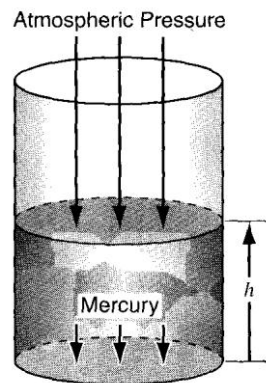

Figure 5.1 Pressure is the normal force per unit area. Arrows show the force exerted on the respective areas
**Pressure** is defined as “the normal (perpendicular) **force** per unit **area** (Figure 5.1). The pressure at the bottom of the static (nonmoving) column of mercury exerted on the sealing plate is
**For Example**, suppose that the cylinder of fluid in Figure 5.1 is a column of mercury that has an area of  $1 \text{ cm}^2$  and is 50 cm high. The density of the Hg is  $13.55 \text{ g/cm}^3$ . Thus, the force exerted by the mercury alone on the  $1 \text{ cm}^2$  section of the bottom plate by the column of mercury is